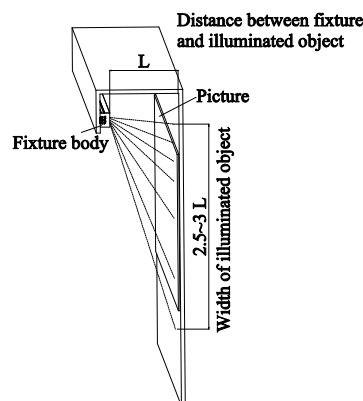

Figure 2
2. The illuminated surface (picture) should be parallel to the light emitting surface (as shown in Figure 2).